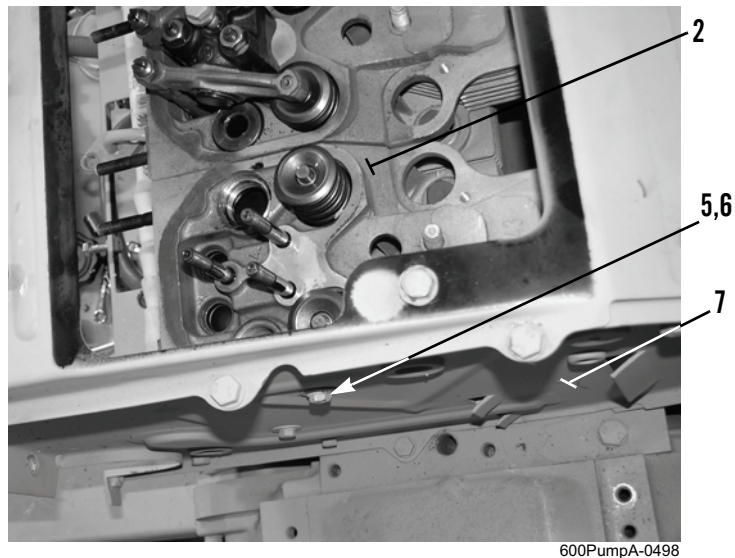

Figure 19. Cylinder Head and Rear Air Duct Wall.
14. If installing frontmost cylinder head (Figure 19, Item 2), install torx head screw (Figure 18, Item 9) to crankcase breather bracket (Figure 18, Item 8), front air duct wall (Figure 18, Item 10), and cylinder head.
15. If installing rearmost cylinder head (Figure 19, Item 2), install washer (Figure 19, Item 6) and bolt (Figure 19, Item 5) to rear air duct wall (Figure 19, Item 7) and cylinder head.